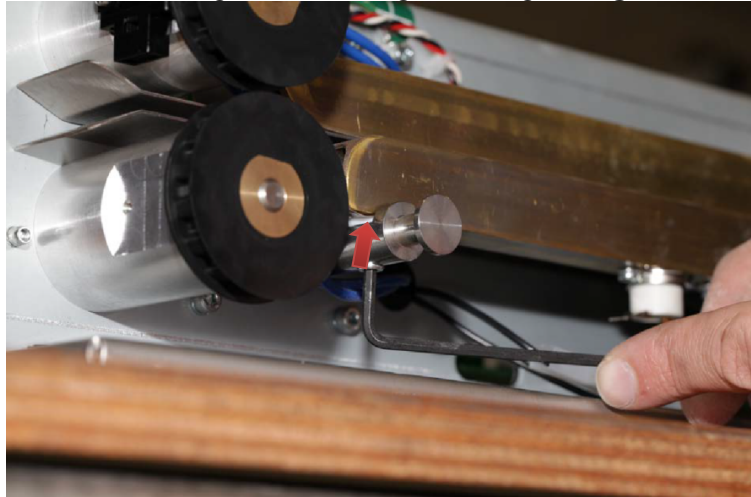

Figure 11
11. Using the “L” wrench, remove the screw from the lower heating bar. Watch for the Teflon insulation rings when removing the heating bar. **Fig. 11, 11A**